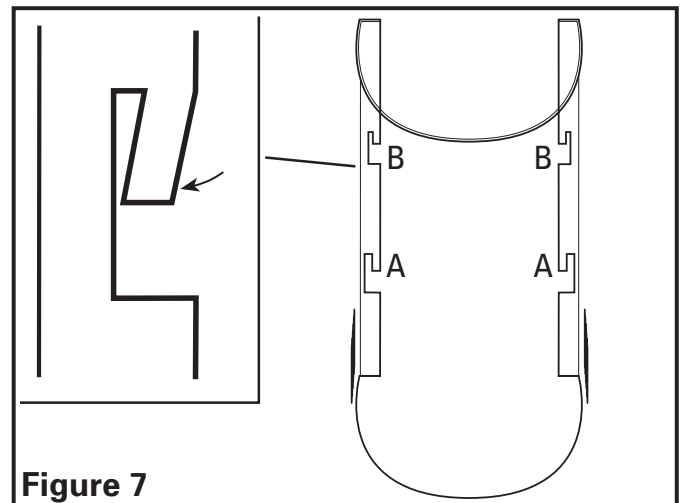

Figure 7
2. Press in appropriate tabs on bottom chimney section (section with vent holes). If using the optional top chimney, press in tabs in middle of the chimney (Position A), otherwise press in tabs at top of the chimney (Position B) (**Figure 7**).